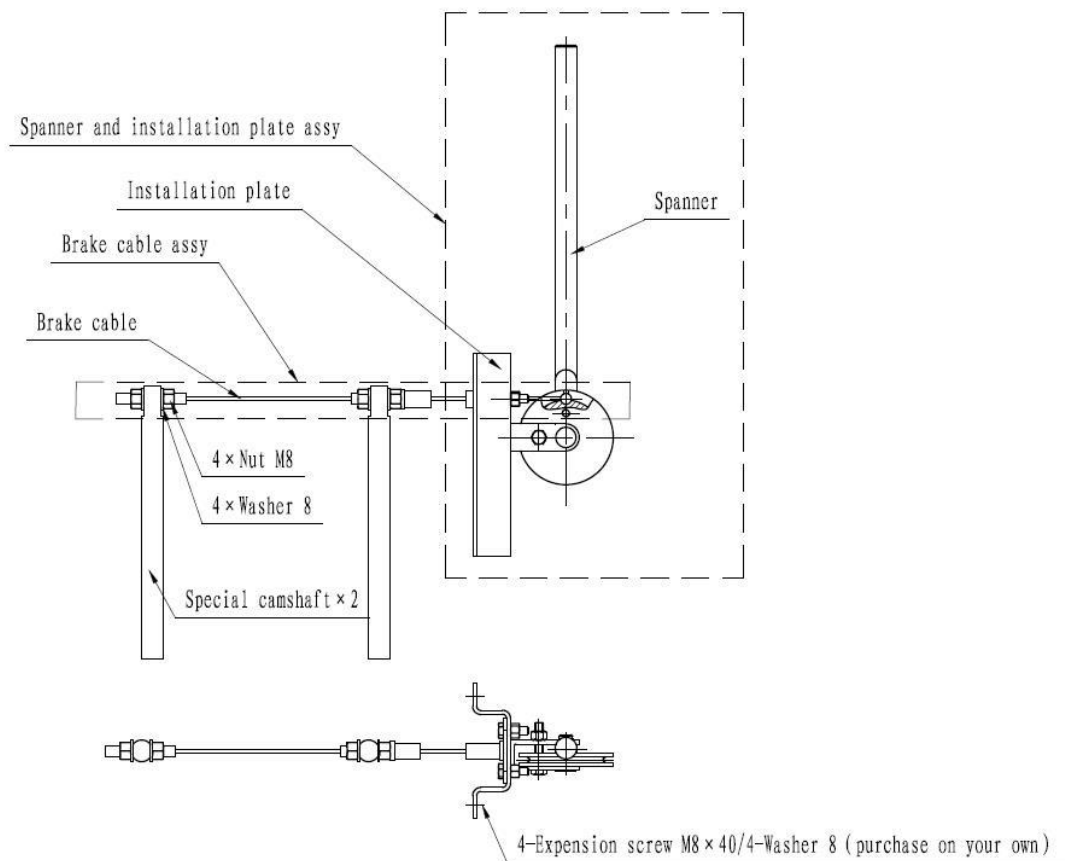

Figure 1.5
- 2) As figure 1.5, pass the other side of loose brake soft pipe through special camshaft(already installed on the brake), clamp these two spanner with four M8 nuts and washers 8;